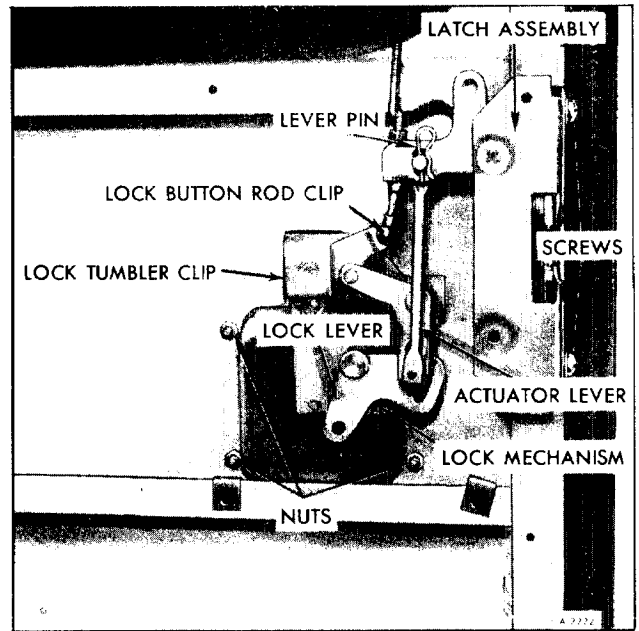

Figure 22--Lock Assembly
6. Remove actuator lever pin and lock button rod clip. See Figure 22.
7. Remove (2) screws from latch assembly at door frame. Remove this portion from the door.
8. Remove four (4) nuts and lock tumbler clip. Remove lock mechanism. See Figure 22.
2. Apply a liberal amount of lubriplate to all contacting surfaces. Secure assembly with four (4) nuts.
4. Install latch assembly on door frame and loosely secure with two (2) screws on door frame.
5. Install lock button rod clip and actuator lever pin as shown in Figure 22.